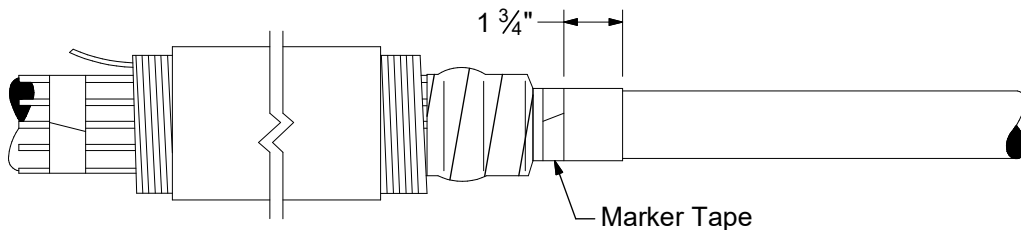

Figure 6
- Place a marker tape on the cable semi-con located 1-3/4" from the end of the semi-con. (Figure 6)